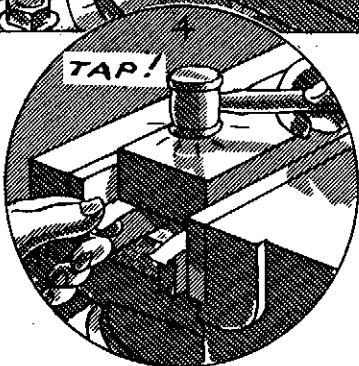

FIG. 289
2. Place the work in the vise with the first side machined down on strips of tissue paper placed in the vise under both ends of the work, or, if the work is supported on parallels, place a strip of tissue paper under each corner of the work (Fig. 289).